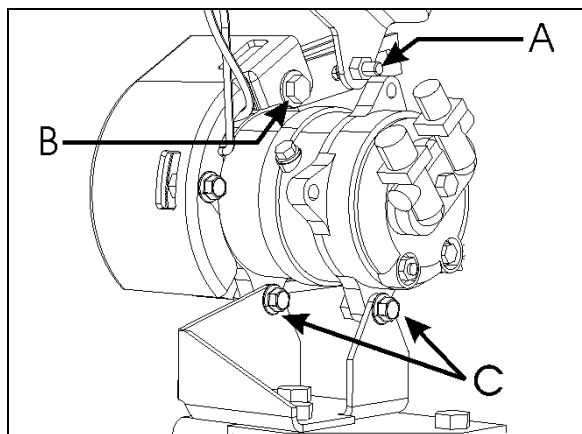

FIGURE 37: COMPRESSOR REMOVAL OR INSTALLATION 22349
Belt tensioning is applied through air bellows which are adjusted by an air pressure regulating valve (Fig 37). The correct pressure of 30 psi (207 kPa) is set at the factory. Periodically verify the pressure at the regulating valve using a pressure gauge and correct if necessary
- * Slacken bolts A (Refer to figure 37).
- * Remove bolts B & C (Refer to figure 37).